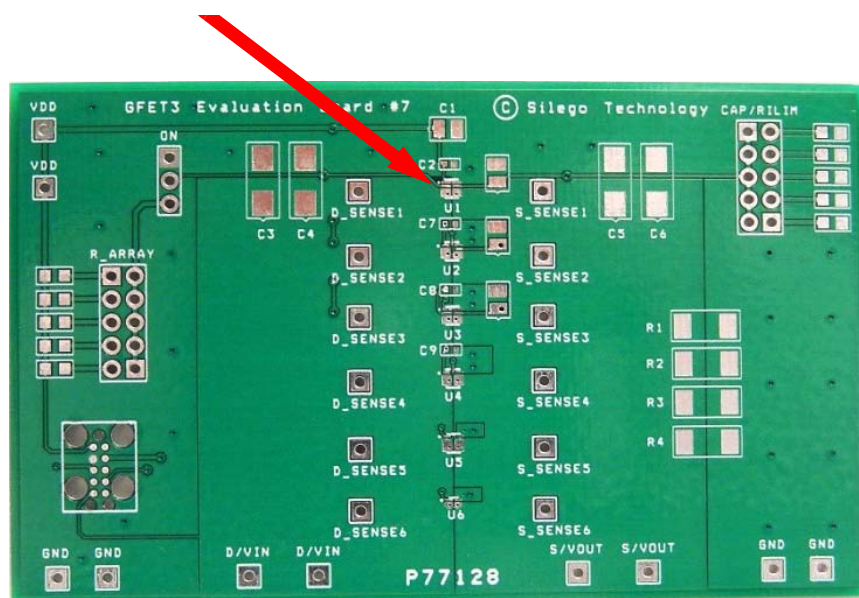

Figure 1. SLG59M1614V Evaluation Board.
2. Since the D/VIN and S/VOUT pins dissipate most of the heat generated during high-load current operation, it is highly recommended to make power traces as short, direct, and wide as possible. A good practice is to make power traces with an absolute minimum widths of 15 mils (0.381 mm) per Ampere. A representative layout, shown in Figure 1, illustrates proper techniques for heat to transfer as efficiently as possible out of the device;
A GFET3 Evaluation Board for SLG59M1614V is designed according to the statements above and is illustrated on Figure 1. Please note that evaluation board has D_Sense and S_Sense pads. They cannot carry high currents and dedicated only for RDS_{ON} evaluation.